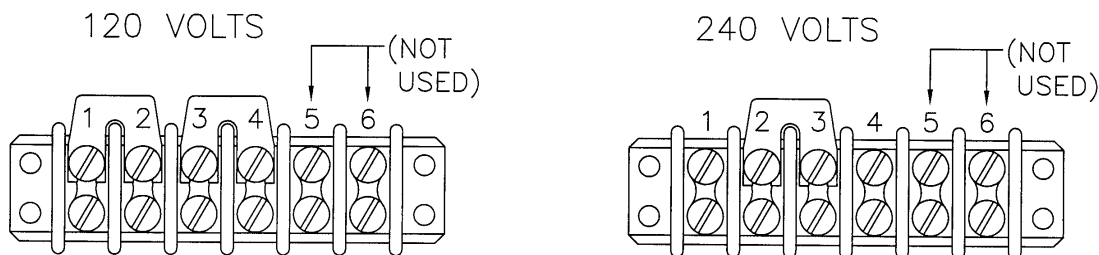

FIGURE 8.2.1A A.C. VOLTAGE SELECTOR BLOCKS (SINGLE PHASE UNITS ONLY)
If the charger is to be operated on a different rated input voltage than the ordered value, follow the voltage changeover instructions described below (Refer to FIGURES 8.2.1A through 8.2.1E.).
3. Locate the Terminal Block with Jumpers (one Terminal Block per phase. and the label describing the various voltage/jumper configurations) (Refer to FIGURE 8.2.1A, B, C, D OR E). The Terminal Block with Jumpers are located on the Ferro-resonant Transformer.